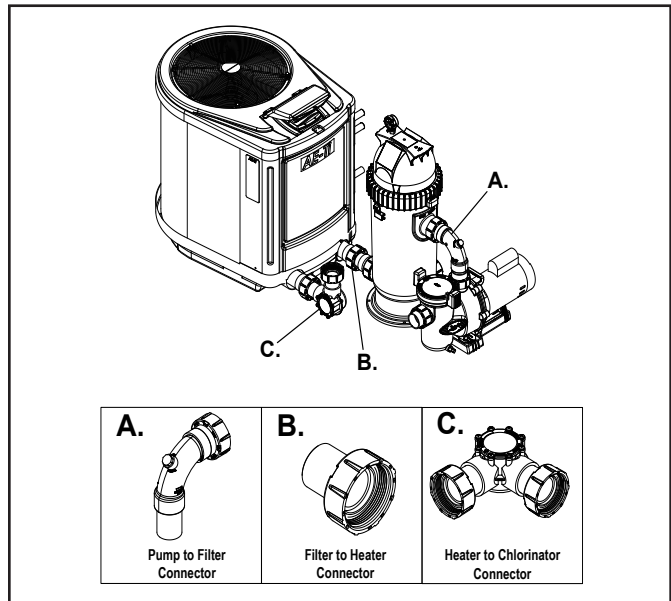

Figure 6. CS Standard Equipment Pad
3. Connect the pump to the suction lines (pool only or pool/spa combo) using CPVC cement and primer. The length of pipe into the suction port of the pump should be a minimum of four (4) times the pipe diameter.
4. Use CPVC cement and primer and connect the pump to the filter using the sweep elbow with the ½” NPT plug component of the kit, marked as “A” in figure 6. This positions the filter.
5. Use CPVC cement and primer and connect the filter to the heat pump using the flange tail piece with union nut, marked as “B” in Figure 6. Use CPVC cement and primer and glue the flange tail piece directly into the standard tail piece on the heat pump inlet port. This positions the heat pump.
6. Attach the check valve (marked as “C” in figure 6) to the outlet of the heat pump making sure the flow arrow points in the correct direction.